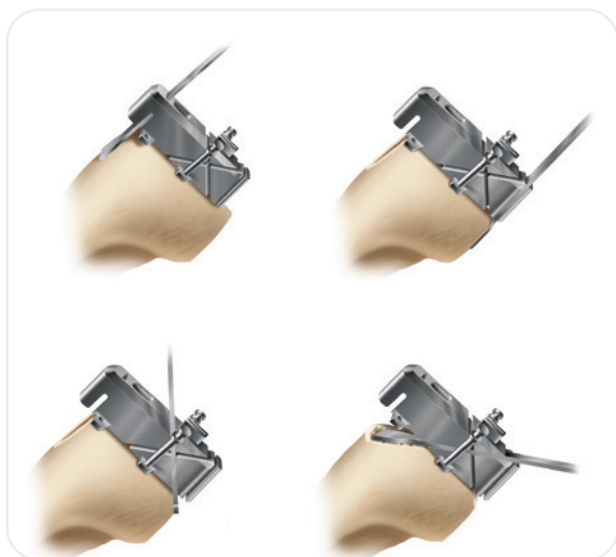

Figure 17
3. Complete the anterior, posterior and chamfer cuts (**Figure 17**). The block is designed to allow for angling of the sawblade during the cuts.